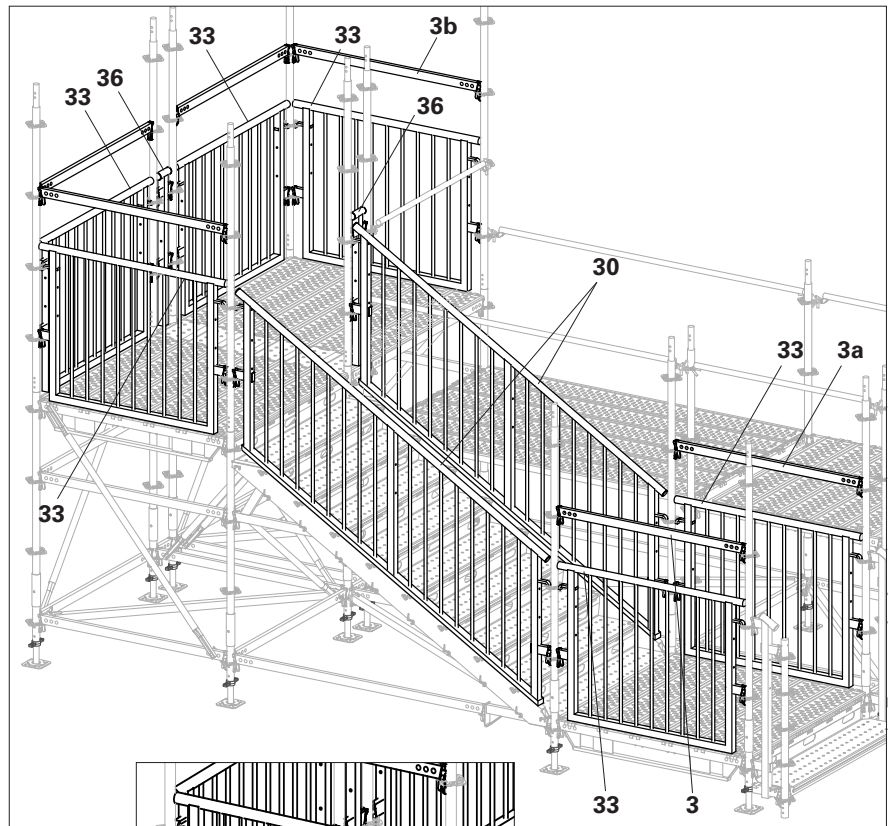
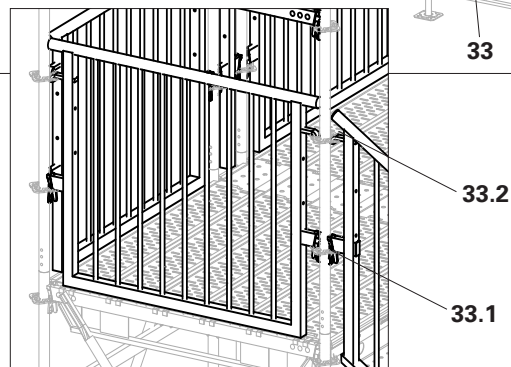

Fig. B2.08
Fig. B2.08a
7. Fit four Horizontal Ledgers UH-2 (**3b**) to the upper landing platform. (Fig. B2.08 + Fig. B2.08a)